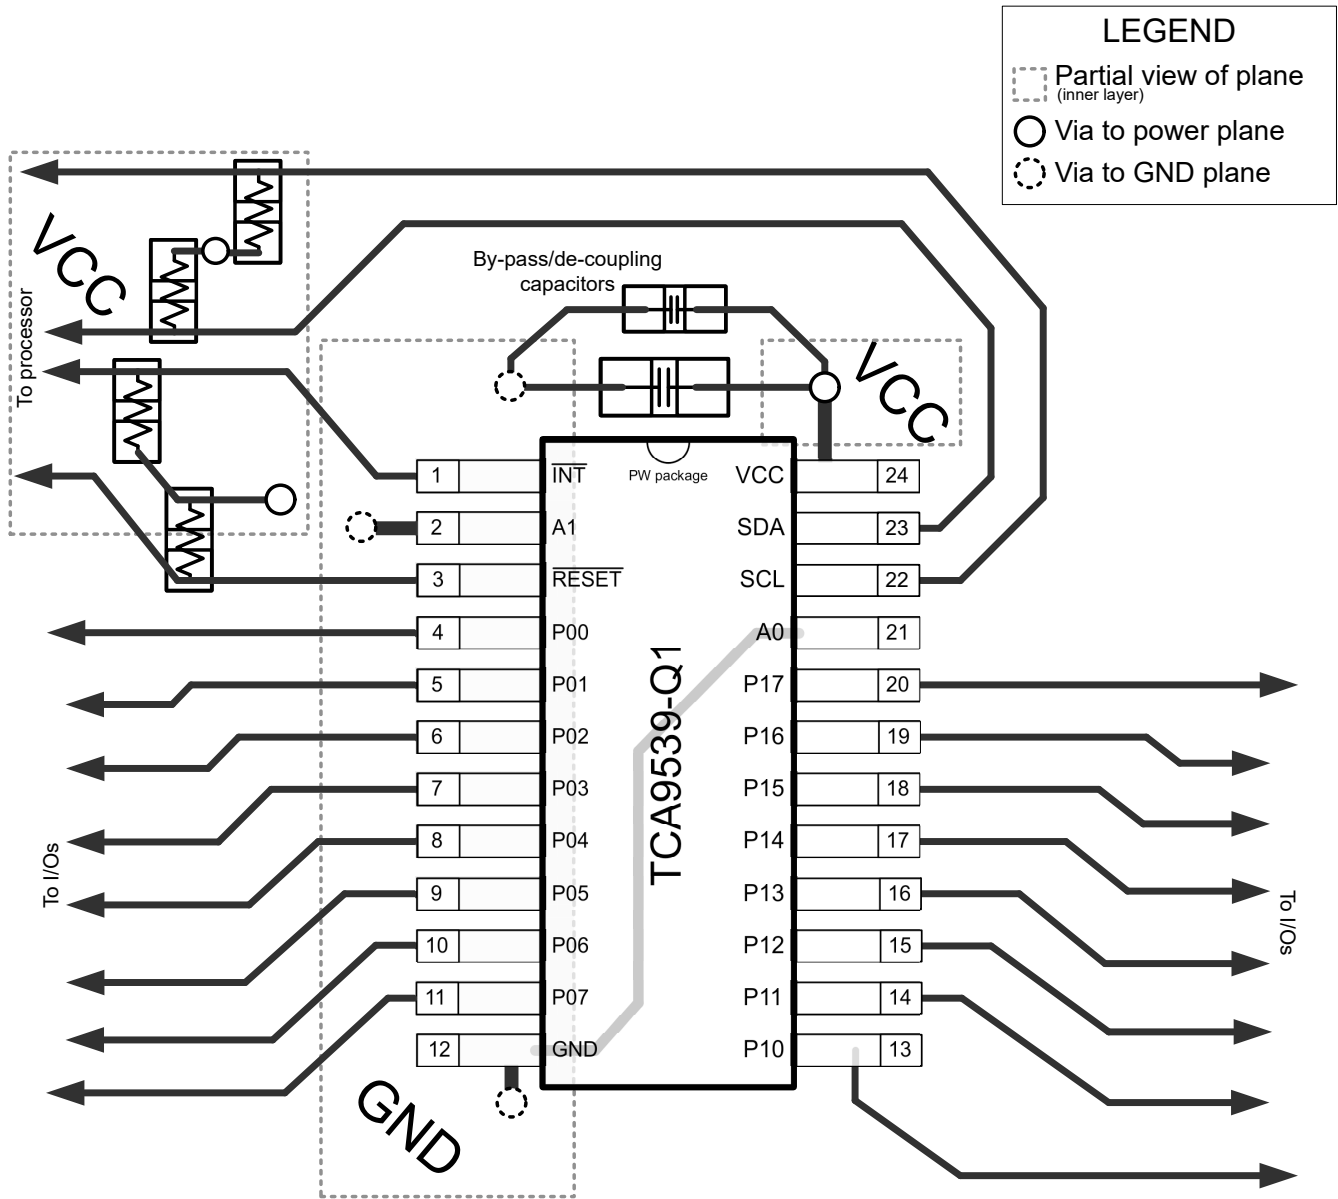

Figure 10-1. TCA9539-Q1 Layout
In all PCB layouts, it is a best practice to avoid right angles in signal traces, to fan out signal traces away from each other upon leaving the vicinity of an integrated circuit (IC), and to use thicker trace widths to carry higher amounts of current that commonly pass through power and ground traces. By-pass and de-coupling capacitors are commonly used to control the voltage on the VCC pin, using a larger capacitor to provide additional power in the event of a short power supply glitch and a smaller capacitor to filter out high-frequency ripple. These capacitors must be placed as close to the TCA9539-Q1 as possible. These best practices are shown in Figure 10-1.
For the layout example provided in Figure 10-1, it would be possible to fabricate a PCB with only 2 layers by using the top layer for signal routing and the bottom layer as a split plane for power (VCC) and ground (GND). However, a 4 layer board is preferable for boards with higher density signal routing. On a 4 layer PCB, it is common to route signals on the top and bottom layer, dedicate one internal layer to a ground plane, and dedicate the other internal layer to a power plane. In a board layout using planes or split planes for power and ground, vias are placed directly next to the surface mount component pad which must attach to VCC or GND and the via is connected electrically to the internal layer or the other side of the board. Vias are also used when a signal trace needs to be routed to the opposite side of the board, but this technique is not demonstrated in Figure 10-1.